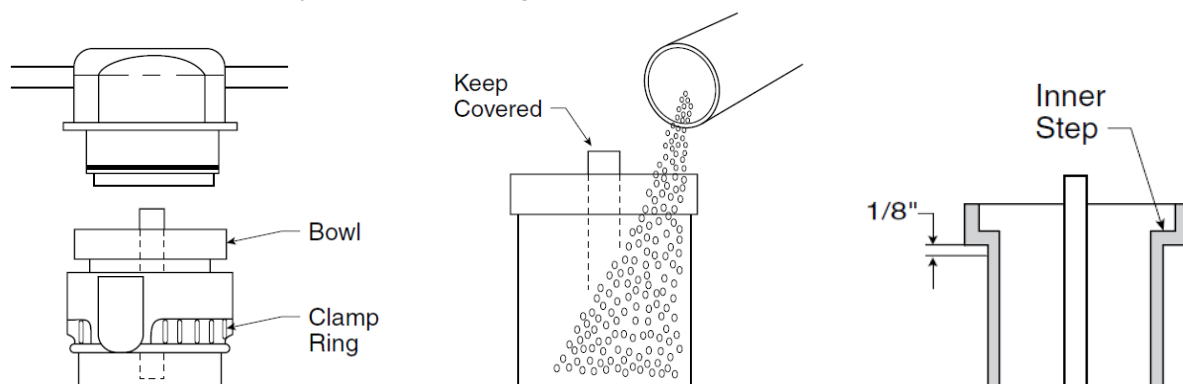

Figure 2-3: Filling the bowl with desiccant
- 4) Keep the central tube covered to prevent silica gel from entering it. Fill the bowl with desiccant to 1/8" below the inner step of the bowl. Shake or tap the bowl to settle the desiccant and add more desiccant if required. Refer to Figure 2-3.